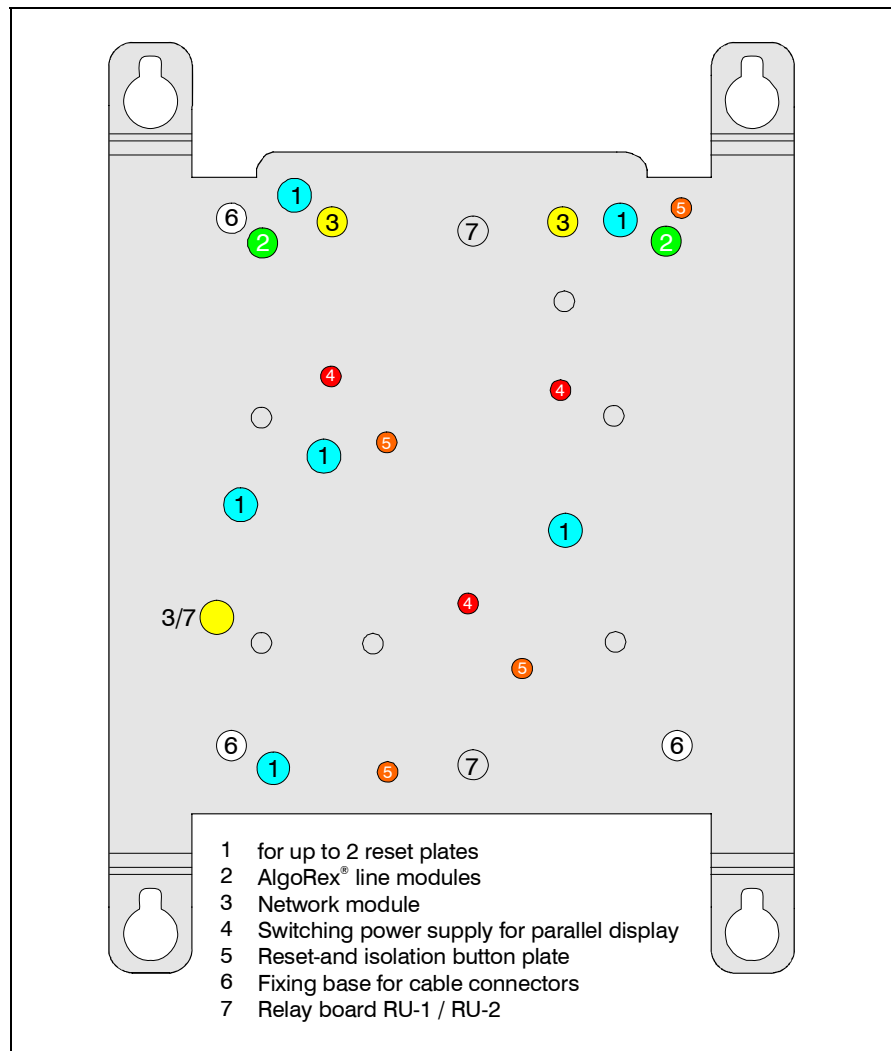

Fig. 5.8: Arrangement of holes on the installation plate of the additional housing
- ➌ Fix the reset board to the installation board with 3 plastic spacers (for fixing points see Fig. 5.8) in the additional housing.
- ❶ Using a screwdriver, loosen the four screws on the additional housing cover.
- ❷ Push the spacer blocks into the installation board (for fixing points see Fig. 5.8) on the additional housing. The reset and isolating button board is then engaged with the spacer blocks using the holes provided.
- ❸ Feed the wires through as per the following switching plan.
- ❹ Fit the cover again, using a screwdriver to fit the four screws on the device cover firmly.
- ❷ Push the spacer blocks into the installation plate (for fixing points see Fig. 5.8) on the additional housing. The relay board is then engaged with the spacer blocks using the holes provided.
- ❷ Fix the line component to the installation plate using the fitting equipment from the kit (for fixing points see Fig. 5.8).
- ❸ Feed the wires through according to the following switching plan.
- ❹ Re-fit the cover by using a screwdriver to screw the four screws to the device cover firmly.
- ❶ With the aid of a screwdriver, loosen the four screws on the additional housing cover.
- ❷ Fit the network module into the TITANUS MICRO·SENS® additional housing (for fixing points see Fig. 5.8).